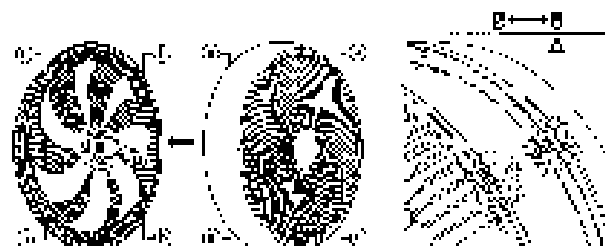

Fig. 1
3. Attach the front grille to rear grille by aligning the alignment mark on the top of the grille, clasp them together by the hooks (a in Fig. 1) on the front grille and the slots (b in Fig. 1) on the rear grille. (See Fig. 1), rotate the front grille clockwise to the lock position.